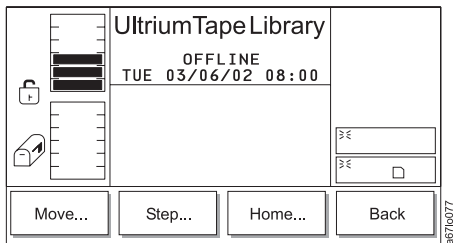

Figure 4-164. Picker Submenu
4. Press the button below the **Picker** softkey. The Picker Submenu displays (see Figure 4-164).